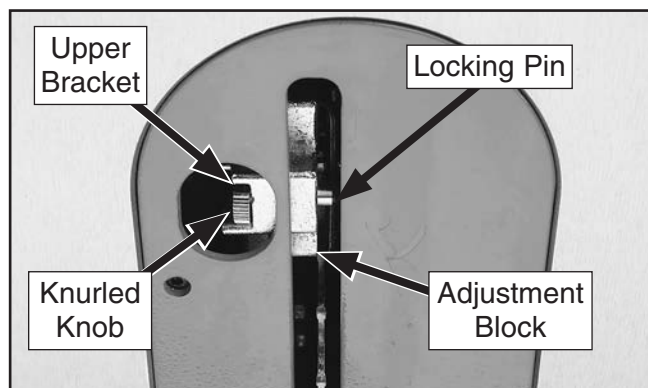

Figure 47. Knurled knob used to secure spreader.
3. Slide knurled knob out (see **Figure 47**) and rotate it so it engages upper bracket.